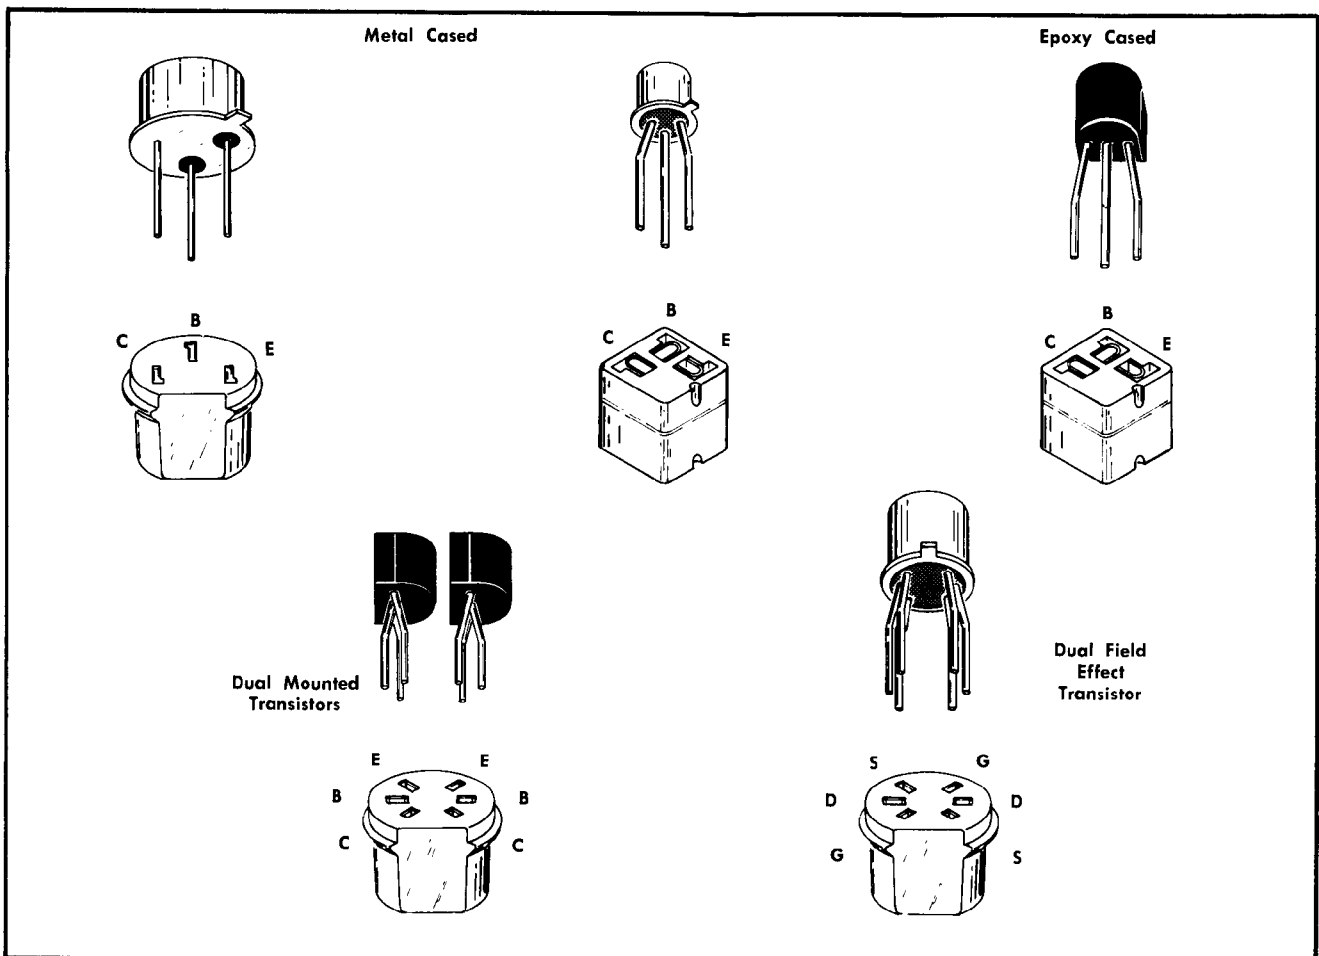

Fig. 4-3. Transistor socket and transistor lead configuration top view.
**Tube and Transistor Substitution.** Tubes and transistors should not be replaced unless actually defective. However, temporary substitution is often the fastest and best way to detect a defective tube or transistor. Fig. 4-3 shows top and bottom views of the transistor and transistor sockets.
Turn off the oscilloscope power before replacing transistors or tubes. The protective shield over the FET's Q114 and Q314, may be removed by pressing the cap to the side until it snaps past the lip on the transistor socket. When replacing the FET's the metal indexing tab normally faces the flat side of the socket. Transistor lead configuration and socket pin wiring are shown in Fig. 4-3.